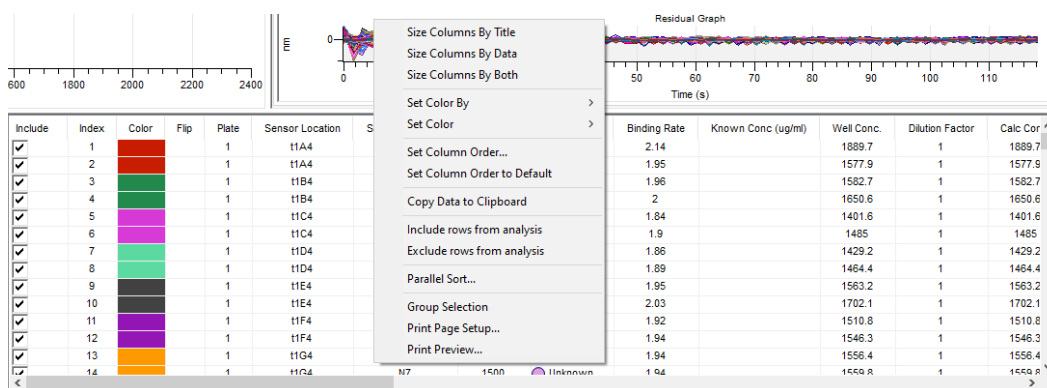

Figure 10-38: Analysis Results Table Menu
- To view table display options, right-click a populated table row or column to see the menu (Figure 10-38).